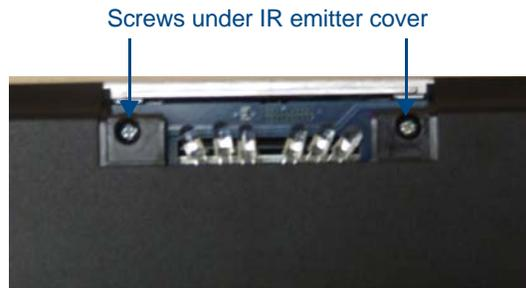

FIG. 114 Placement of screws underneath IR emitter cover
- Remove the two screws underneath the IR emitter cover (FIG. 114).